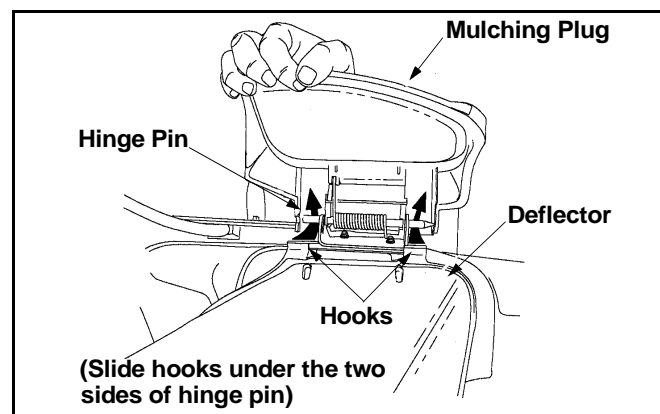

Figure 8
- On the side of the mower, lift the mulching plug. See Figure 8.